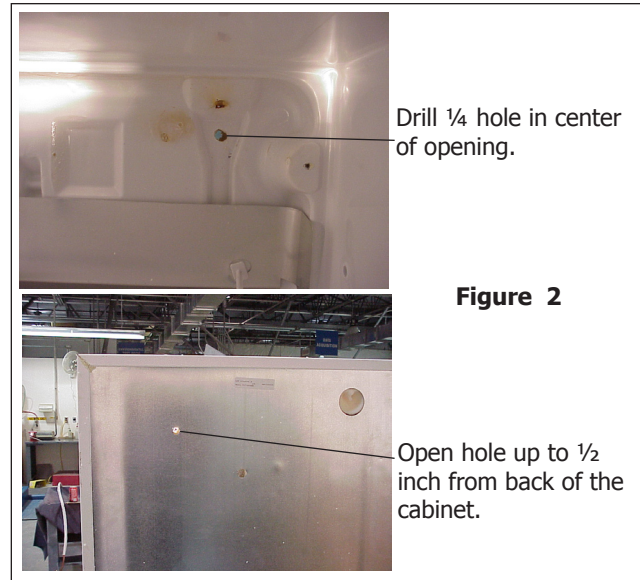

Figure 2
8. Cut small "X" in heat shield and slide cap tube and suction line through hole. Pack heat shield in top corner of liner. (See Figure 2.) You may want to use small pair of vise-grips on suction line to help hold heat shield in place.
- Using 1/4 drill bit, drill hole through the cabinet from inside at location shown in Figure 2.
- Using 1/2" drill bit, open hole drilled in Step 5 to 1/2" from back of product. See Figure 2.